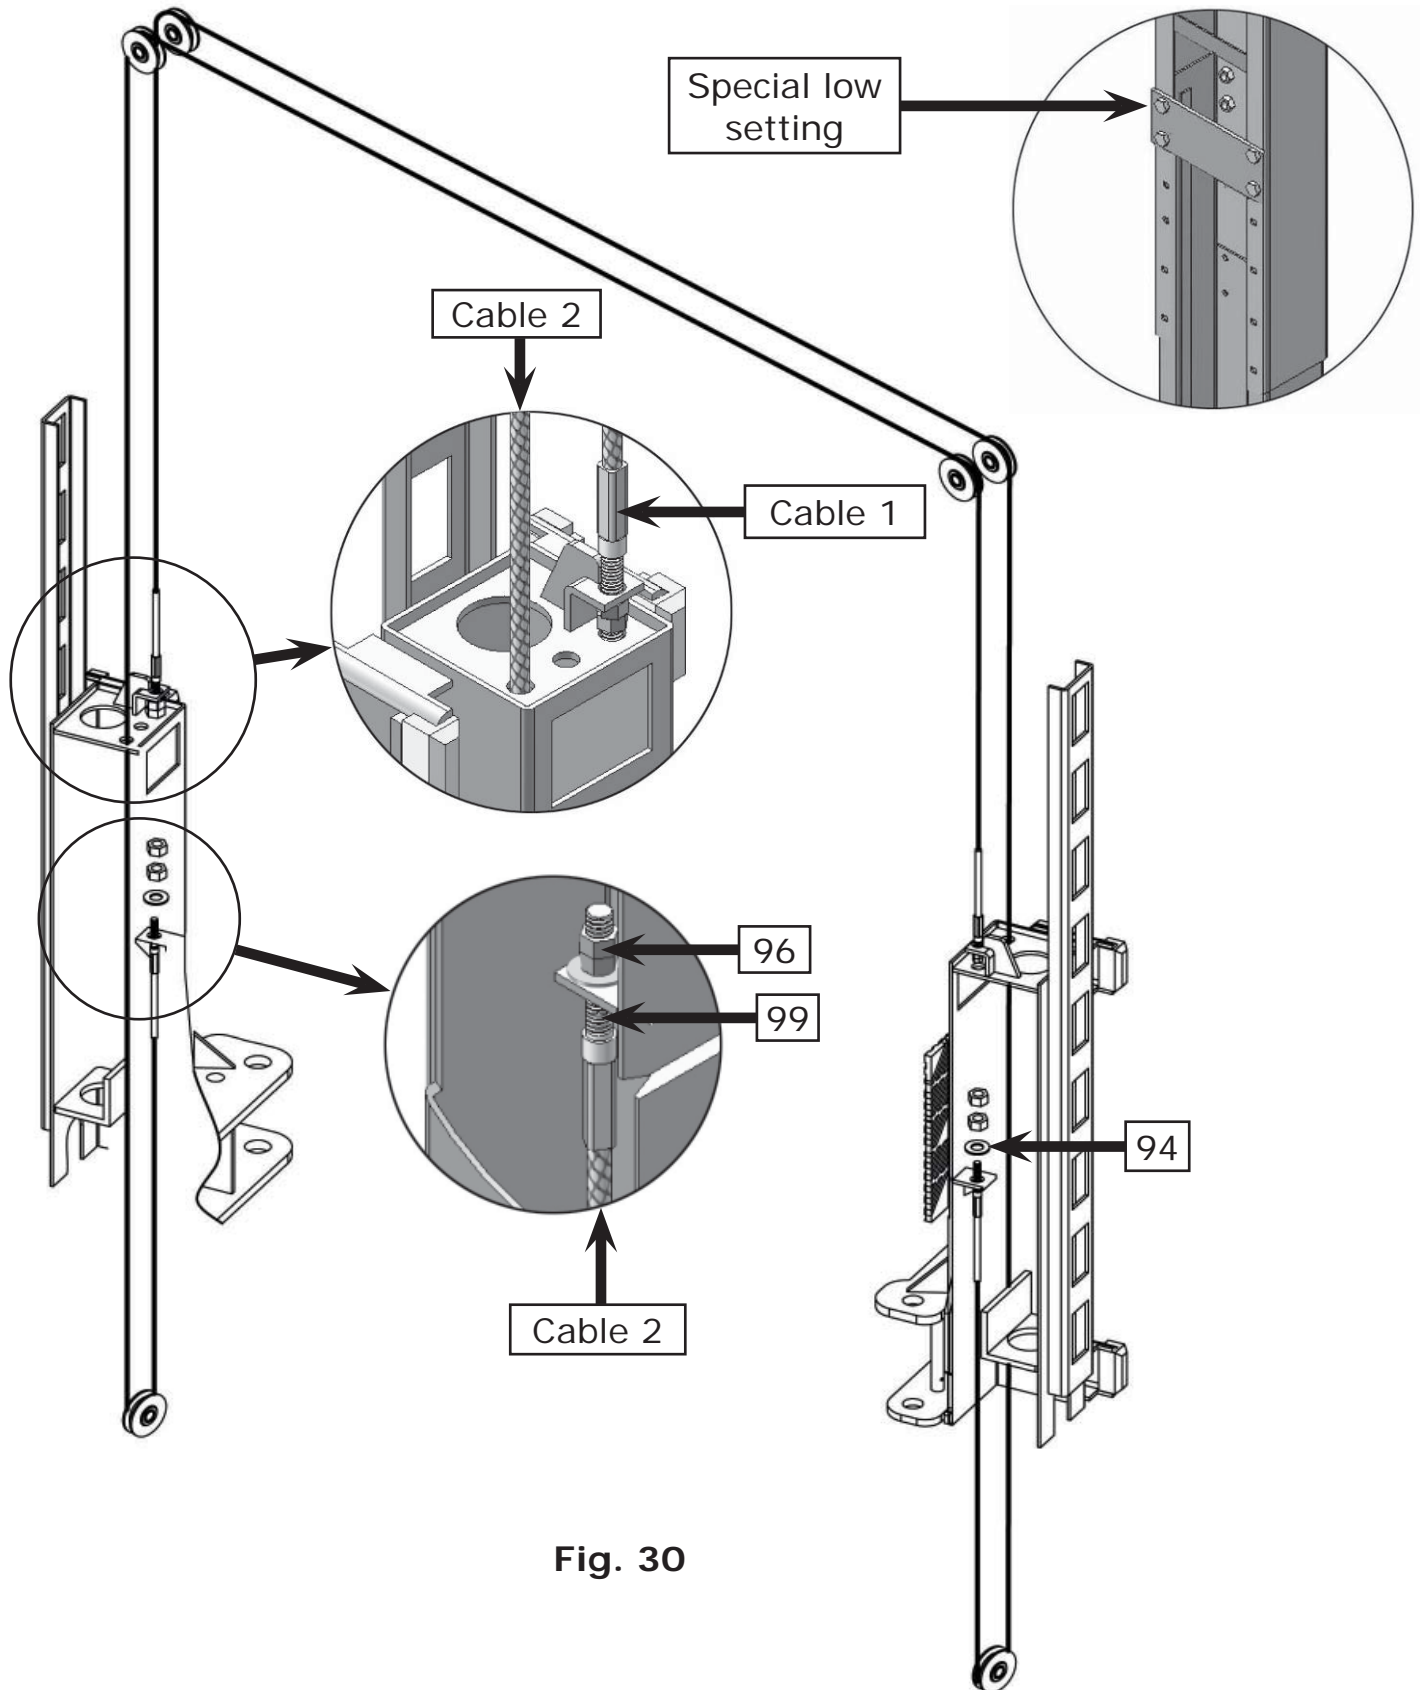

Fig. 30
3. **Special low setting cable connection.** Suitable for ceiling heights less than 4200mm (165 3/8") (See Fig. 30). This setting needs the optional short cable.